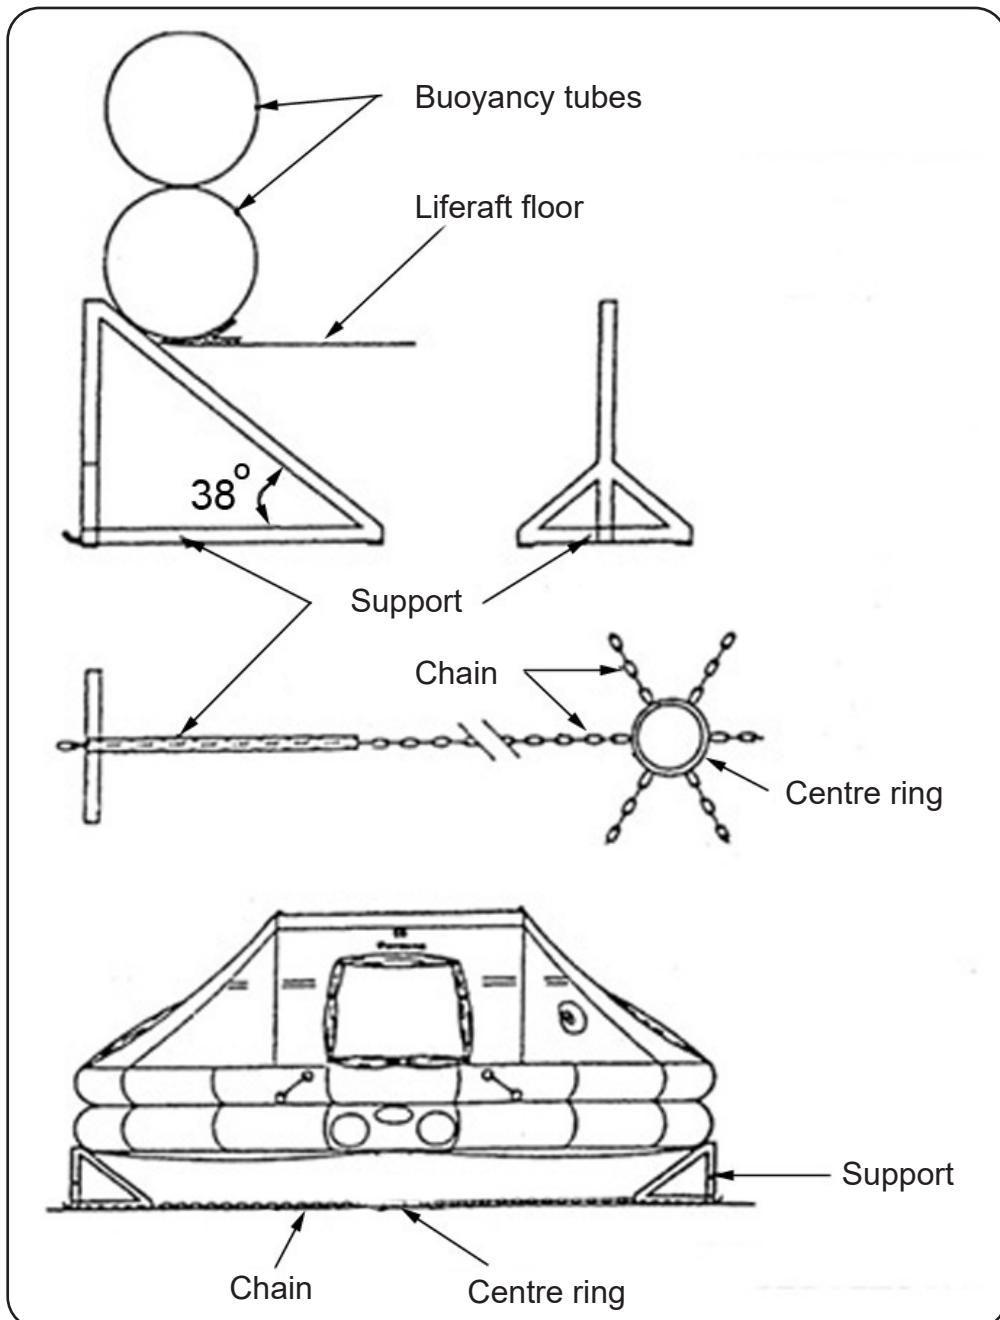

FIGURE 506
- 3.8.2 To facilitate the test, a proper test frame as shown is recommended,. Refer to FIGURE 506.